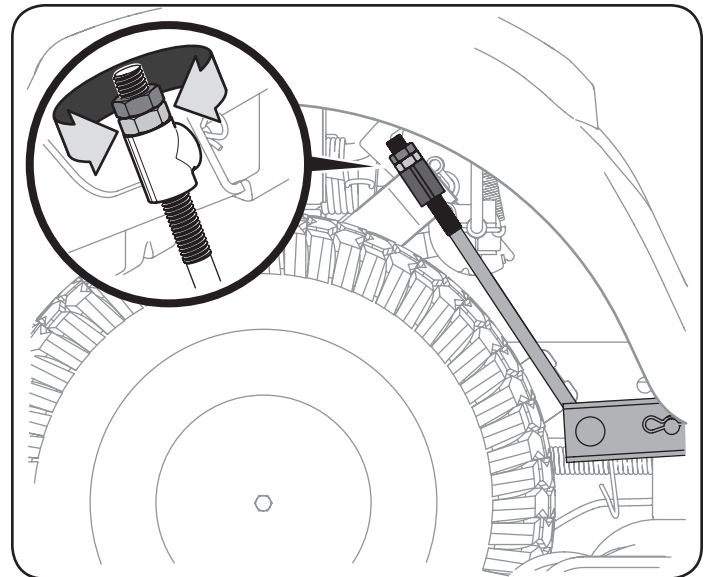

Figure 19
3. Under the rear fenders inside the wheels there is a lift adjustment rod for each side of the deck. See Figure 19.